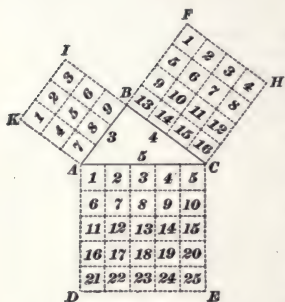

FIG. 28.
**58.** In any right triangle, the square described on the hypotenuse is equal to the sum of the squares described upon the other two sides. If  $ABC$ , Fig. 28, is a right triangle right-angled at  $B$ , then the square described upon the hypotenuse  $AC$  is equal to the sum of the squares described upon the sides  $AB$  and  $BC$ . Hence, having given the two sides forming